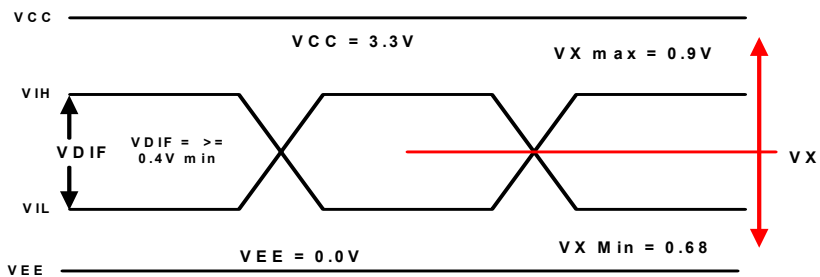

Figure 2. HSTL Differential Input Waveform Definitions
- V_X(AC) is the crosspoint of the differential HSTL input signal. Normal AC operation is obtained when the crosspoint is within the V_X(AC) range and the input swing lies within the V_{DI}(AC) specification. Violation of V_X(AC) or V_{DI}(AC) impacts the device propagation delay, device and part-to-part skew. Refer to Fig. 2.